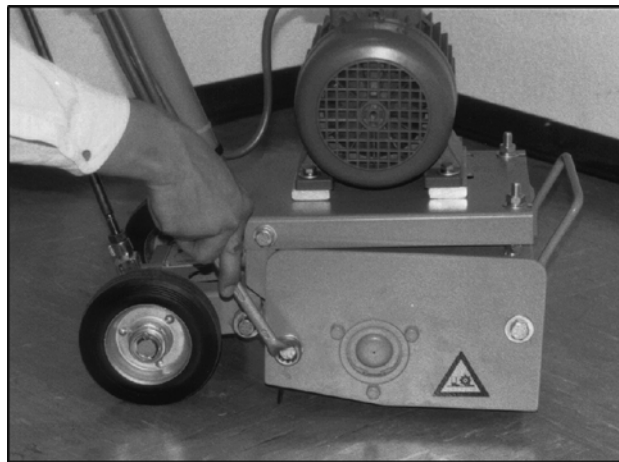

Fig. 7.1
- 1 Loosen the fastening screws on the side plate fitted to the housing and remove them, pull off the side-plate. (Fig. 7.1)